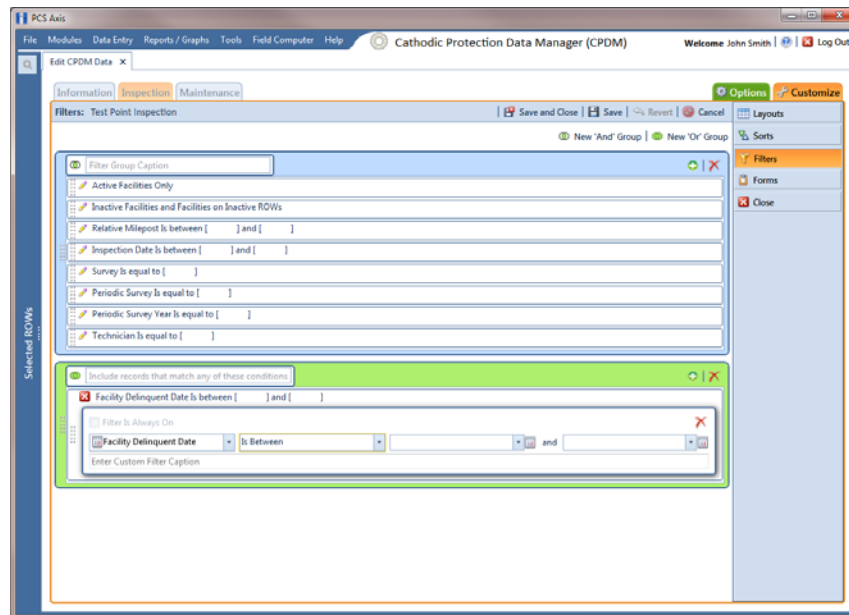

Figure 7-91. Filters
- 5 Click  **New 'Or' Group** to open a filter properties group box (Figure 7-91, page 281).
- 8 If the OR filter group includes a date filter, such as *Facility Delinquent Date Is Between* shown in Figure 7-91 (page 281), set a date range using a calendar or dynamic dates in the following manner: